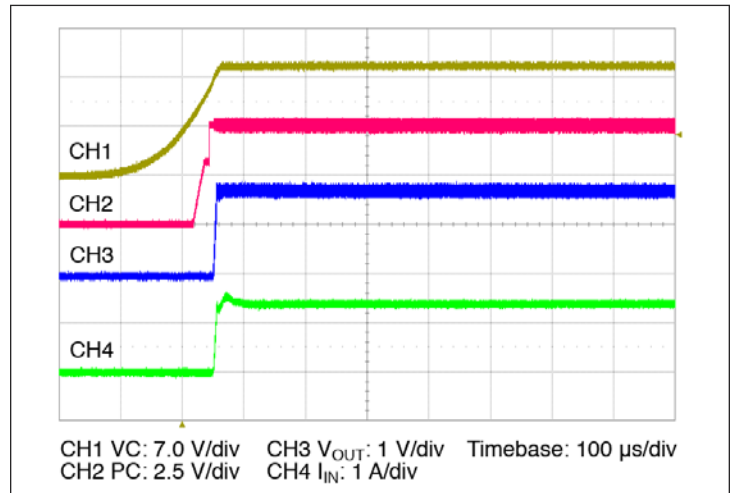

Figure 14 — Start up from application of VC;  $V_{IN}$  pre-applied  $C_{OUT} = 0\ \mu\text{F}$
- Stand Alone Operation (VC applied after VIN): In this case the module output will begin to rise upon the application of the VC voltage (See Figure 14). The Adaptive Soft Start circuit (See Section 10) may vary the output rate of rise in order to limit the inrush current to its maximum level. When starting into high capacitance, or a short, the output current will be limited for a maximum of 900 μsec. After this period, the adaptive soft start circuit will time out and the module may shut down. No restart will be attempted until VC is re-applied, or PC is toggled. The maximum output capacitance is limited to 1500 μF in this mode of operation to ensure a successful start.